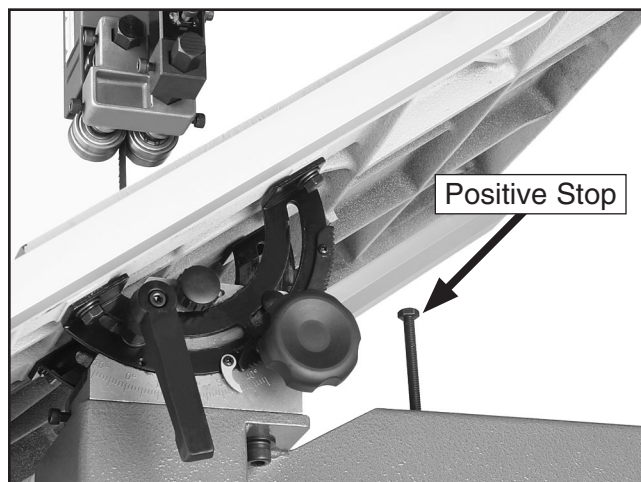

Figure 19. Installed positive stop bolt.
- Thread the positive stop bolt into the threaded hole on bandsaw body as shown in **Figure 19**.